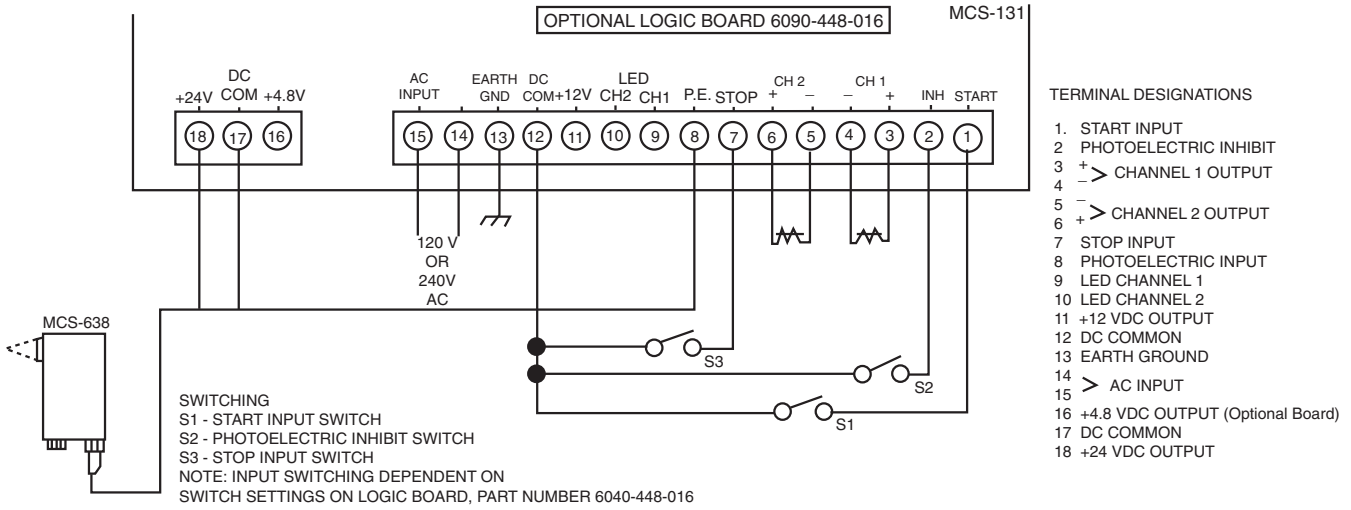

Figure 3 - Expanded Input Switching with Logic Board, 6090-448-016 and MCS-638 Color Mark Scanner
Provides for start, stop, scanner and scanner inhibit. See Figures 3, 4, and 5.
- b. For Bag Logic Module, use Figures 3 & 5, or 4 & 5.
Control with optional interface modules, Figures 3 through 7.
Using the Bag Logic Module, 6040-448-016, control input terminal designations change somewhat as shown in Figures 3 and 4.